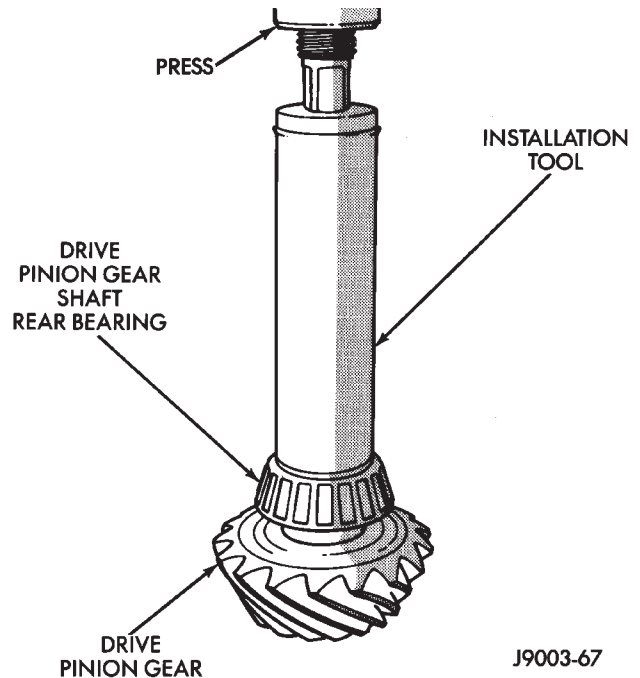

Fig. 34 Shaft Rear Bearing Installation
(4) Place the proper thickness depth shim on the pinion gear and install the rear bearing.
(5) Install the rear bearing (and slinger if used) on the pinion gear with Installer 6448 (Fig. 34).